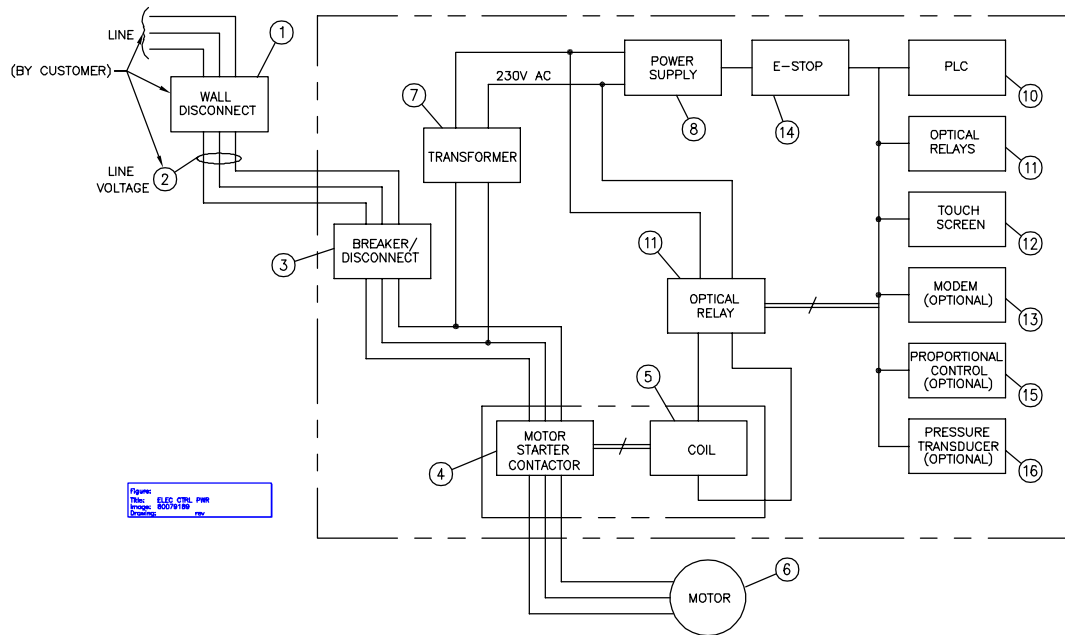

Figure 8-1 ELECTRICAL CONTROL POWER
8.1.4 CONTROL POWER CIRCUITS (see Figure 8-1)